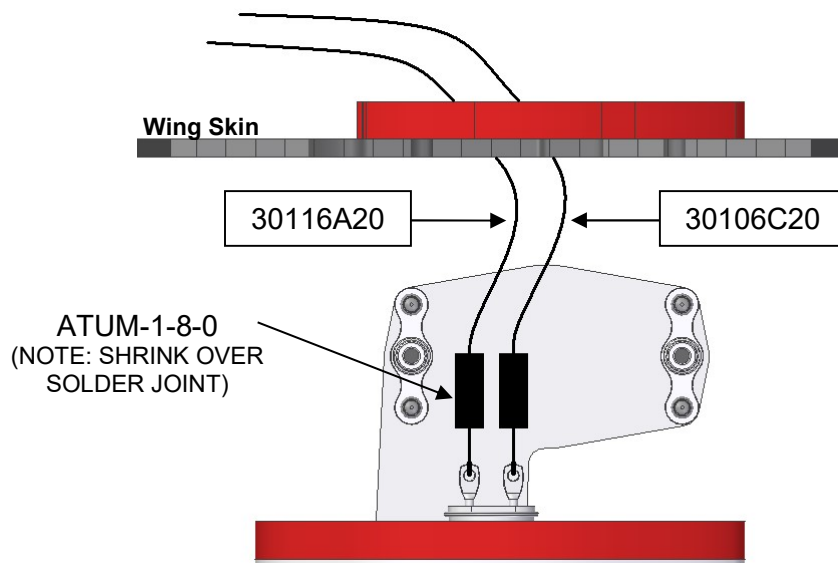

Figure 51: Low Thermal Limit Switch Solder Connections
- 13.3.2.2 Temporarily route wires 30116A20 and 30106C20 through the Pitot Probe Opening, as seen in Figure 51. Trim wires to length according to aircraft standards and practices.